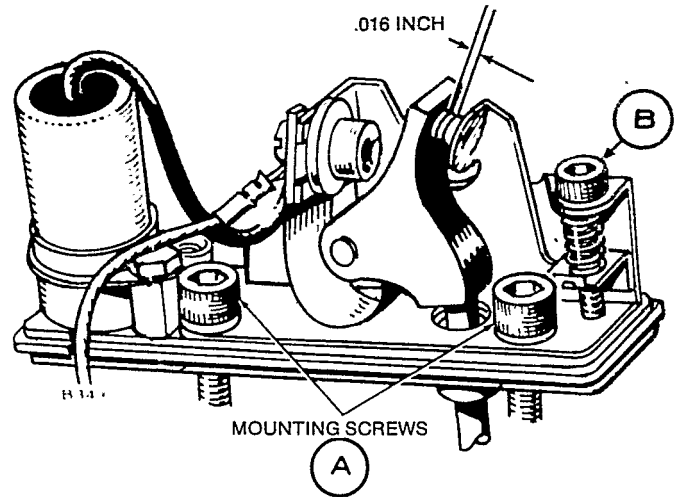

FIGURE 17. TOP ADJUST POINTS
3. Using an allen head wrench, adjust set screw (B) for a .016 (0.41 mm). Measure point gap with a flat thickness gauge.
**Make sure feeler gauge is clean and free of any grease, oil or dirt. See Figure 17.**